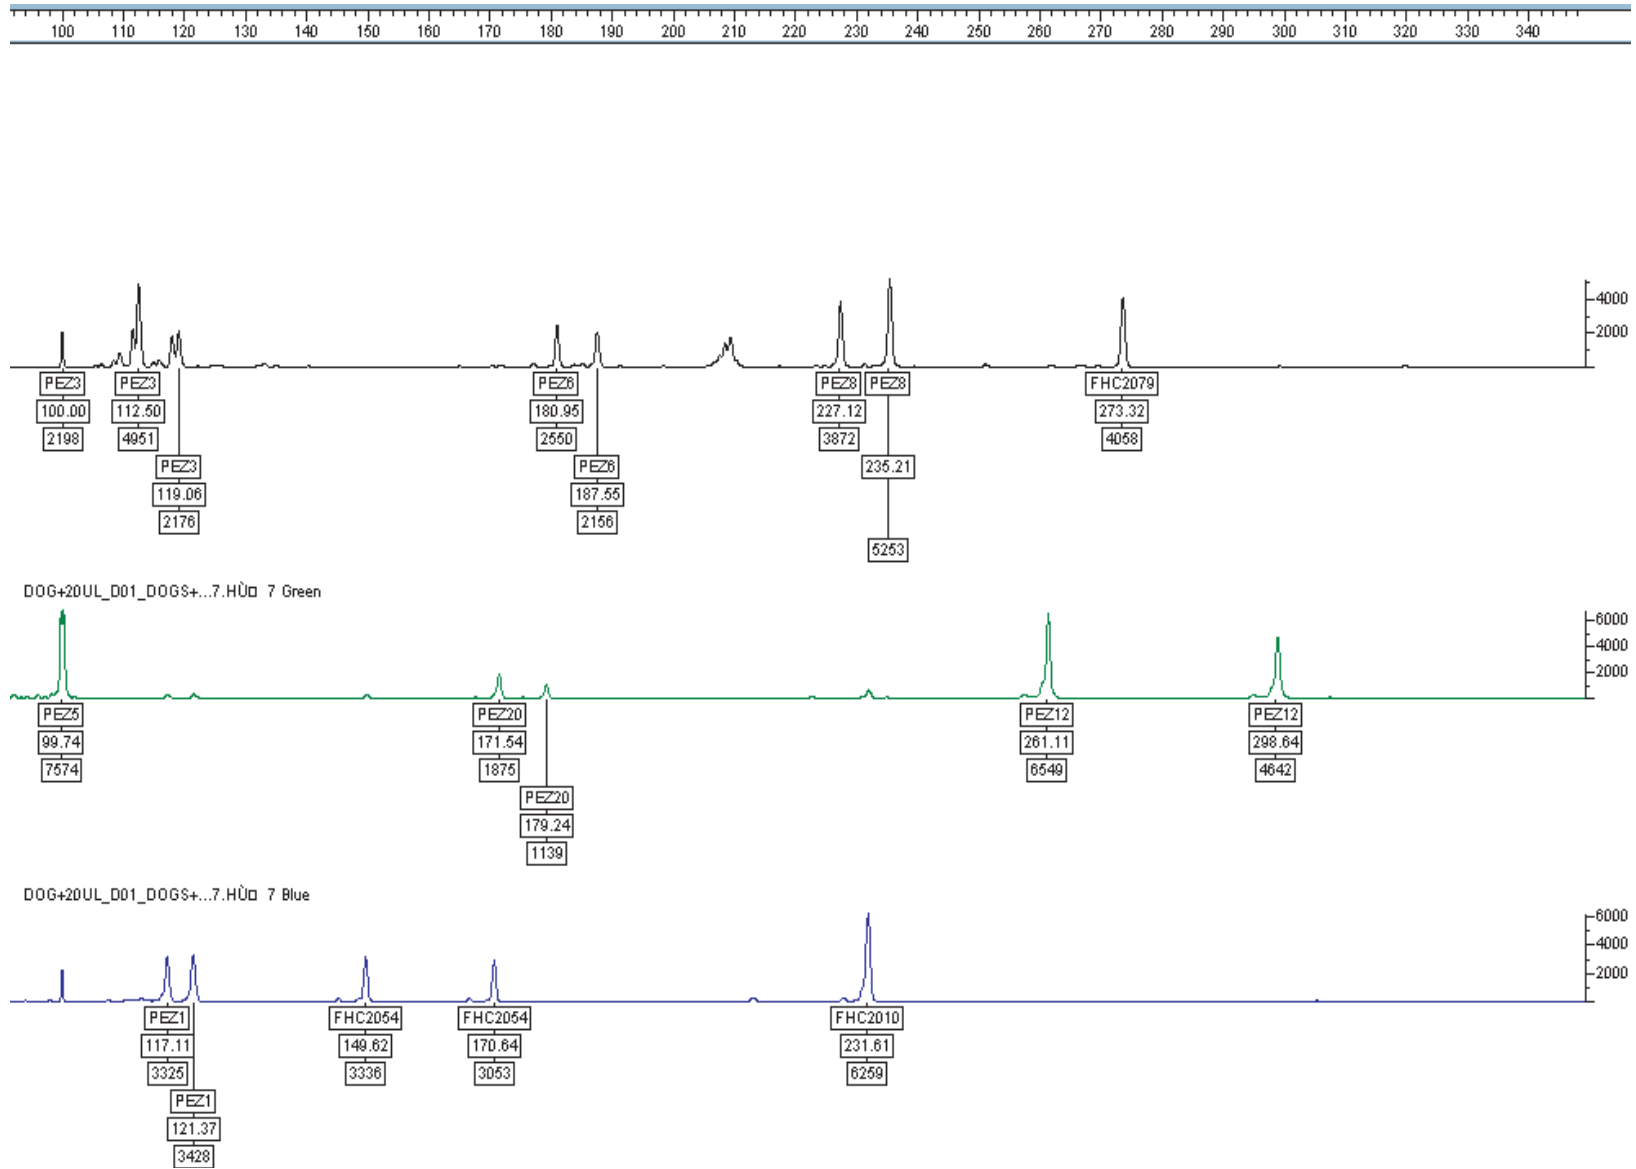

Figure 7 Genotyper™ software analysis of PCR amplification products using canine control DNA and separated on an Applied Biosystems® 3100 Genetic Analyzer
Amplification of the ten canine-specific loci using the canine control DNA as the sample should provide results similar to those illustrated in Figures 7, 8, and 9. These figures show Genotyper™ software plots of GeneScan™ software results when canine control DNA is separated on an
- Applied Biosystems® 3100 Genetic Analyzer (Figure 7 on page 35)